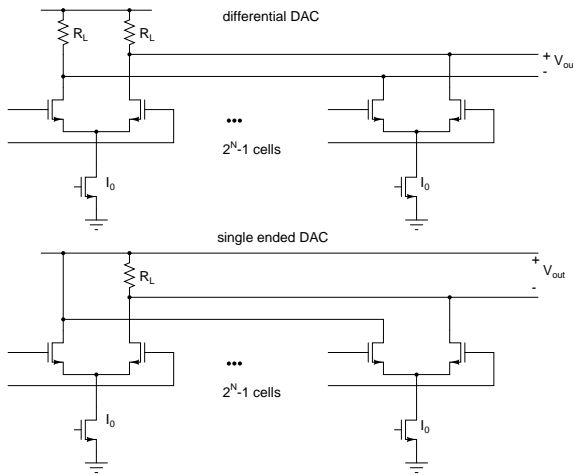

Figure 1:
1. Compute the effect of the output impedance on the single ended and differential DACs in Fig. 1. Is there a difference? What is the  $G_o/G_l$  ratio that can be tolerated for 1/2LSB maximum error in a 10 bit DAC in the two cases?  $G_o$  is the output conductance of a cell when it is on.